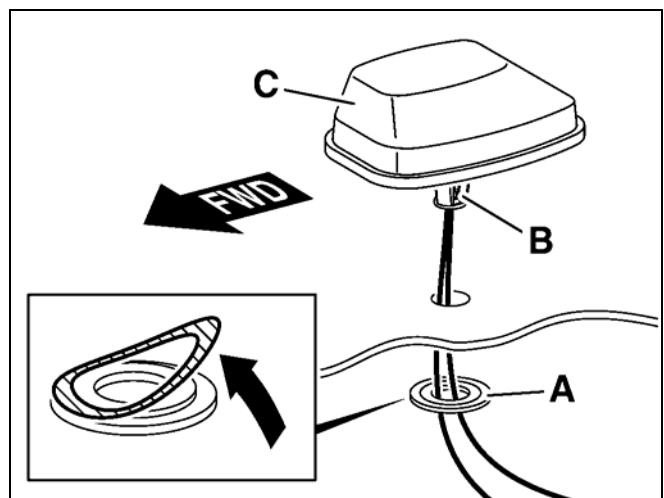

Figure 4
2. Find the “thicker,” plastic washer in the kit and remove the paper backing (Inset, Figure 4) from the adhesive side.
3. Affix the adhesive side of the washer (A, Figure 4) around the interior side of the 20 mm hole drilled through the roof.
5. Feed the SDARS antenna leads, from the topside of the roof, through the 20 mm hole and washer (A, Figure 4).
6. Carefully insert the SDARS antenna sleeve (B, Figure 4) into the washer (A, Figure 4) until it audibly engages.